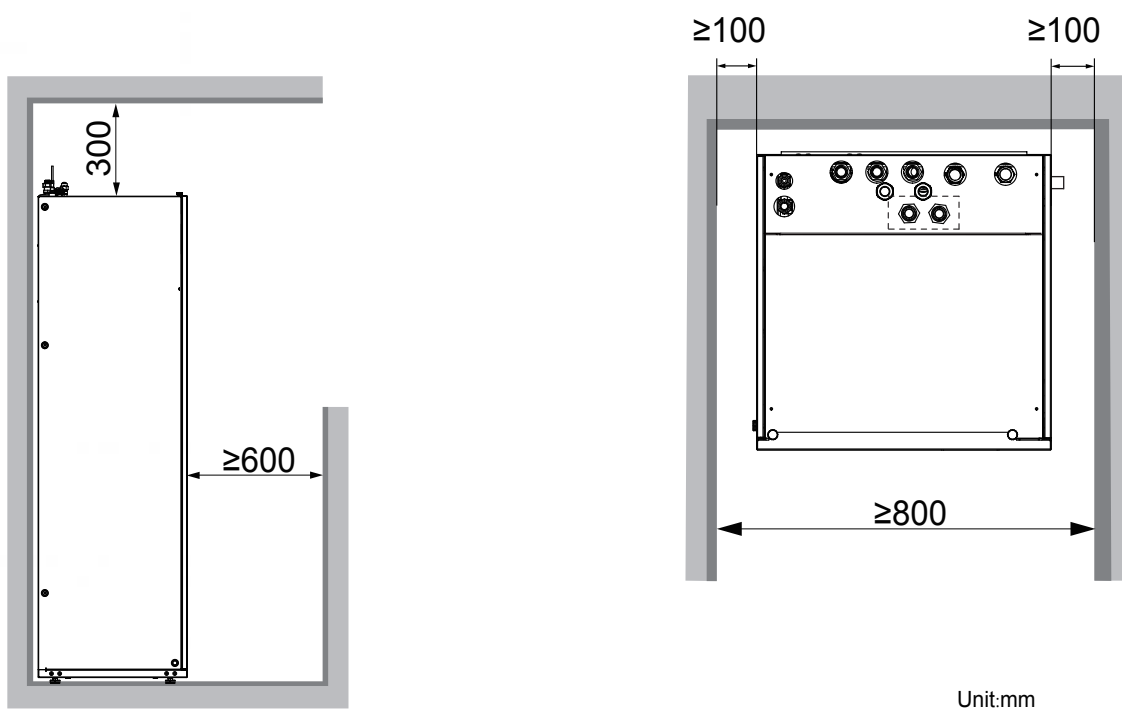

Fig.4-2
- The space around the unit is adequate for serving (Refer to Fig.4-2).